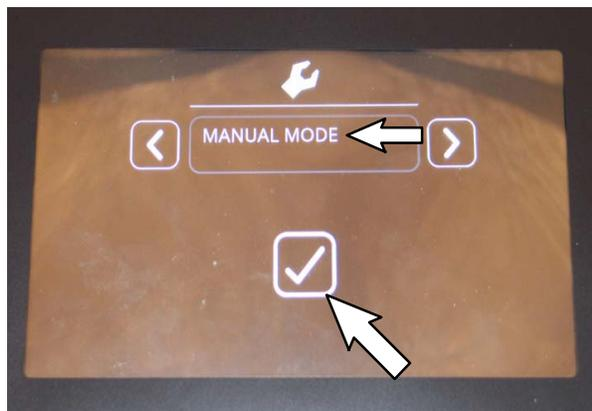

FIG. 36
- Use the left arrow button and right arrow button to scroll to the Manual Mode. Press the Check Mark button to access the manual mode. (Fig. 36)